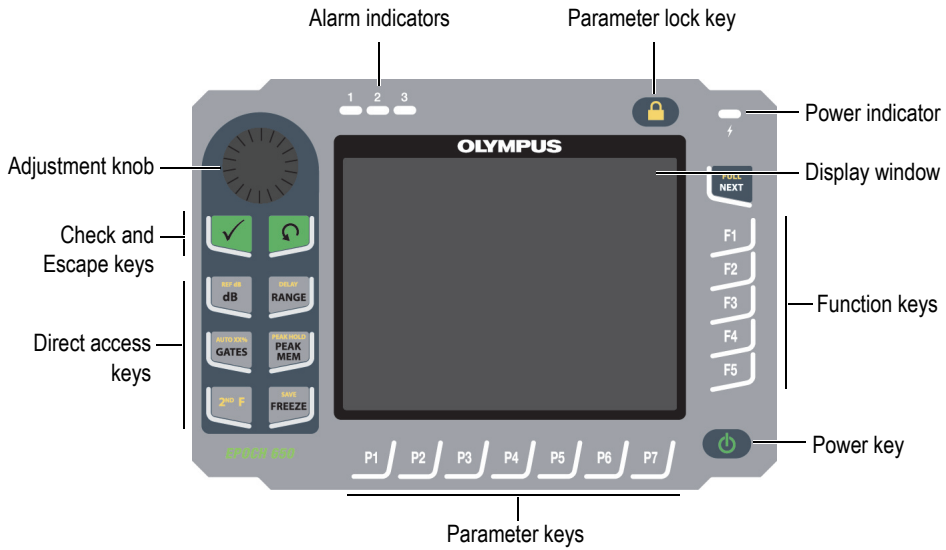
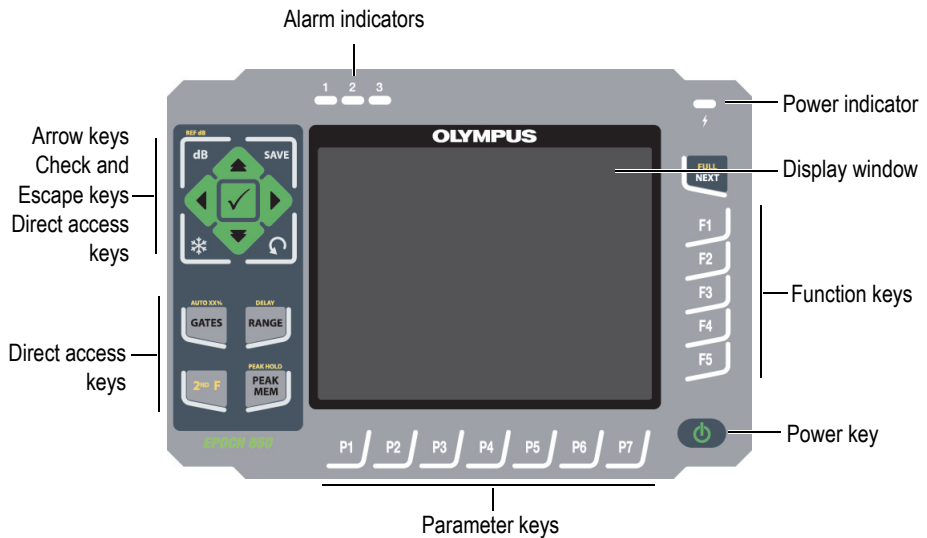
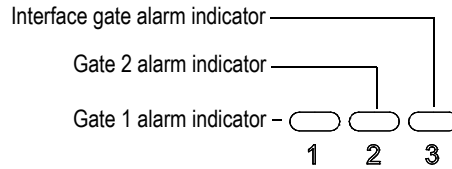

Figure 1-3 The EPOCH 650 — Adjustment knob configuration
Figure 1-4 The EPOCH 650 — Navigation pad configuration
Figure 1-15 Alarm indicators
- Adjustment knob (see Figure 1-3 on page 33)
- Navigation pad (see Figure 1-4 on page 33).
The EPOCH 650 ultrasonic flaw detector provides three alarm indicator lights (see Figure 1-15 on page 45). The indicators are located on the front panel above the display window (see Figure 1-3 on page 33 and Figure 1-4 on page 33).